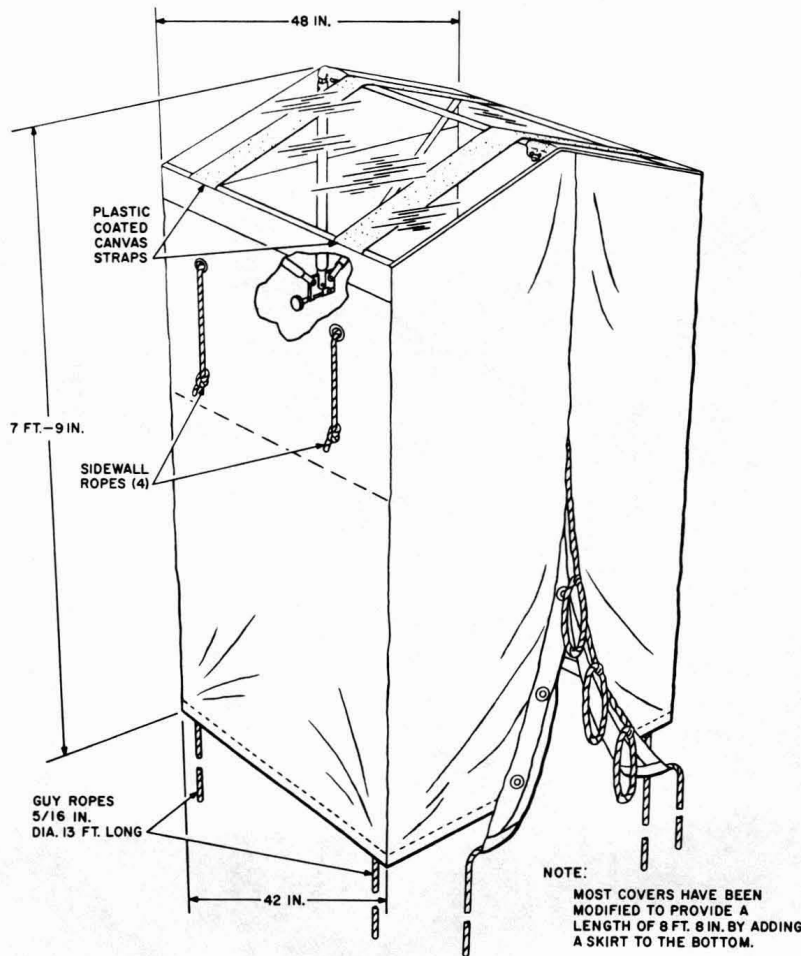

Fig. 15—Superseded B Workman's Tent
9.02 Because of the construction of the frames of the superseded tents, they must be installed on the top strand where there is more than one strand in the lead (one strand above the other). The superseded B workman's tent and C workman's tent are shown in Fig. 15 and 16.